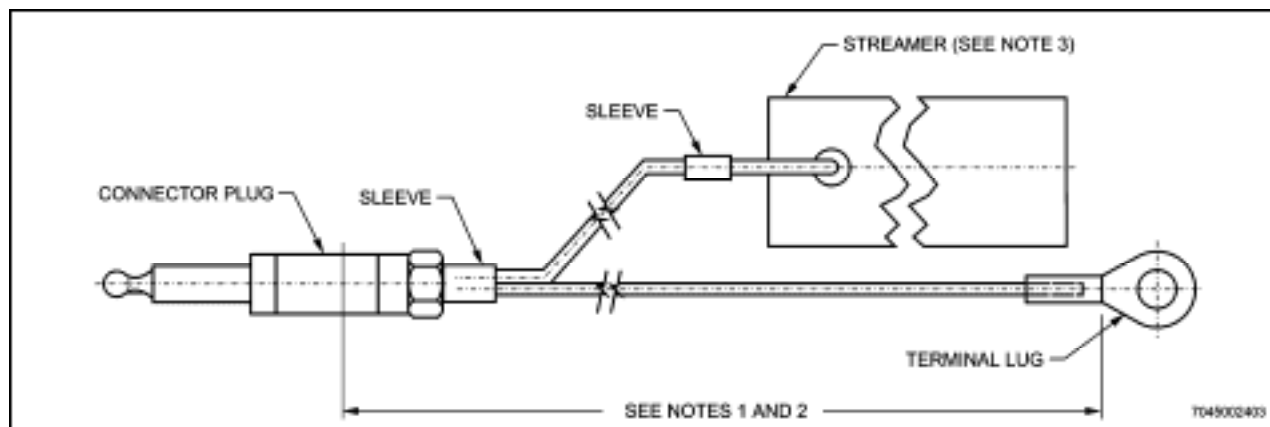
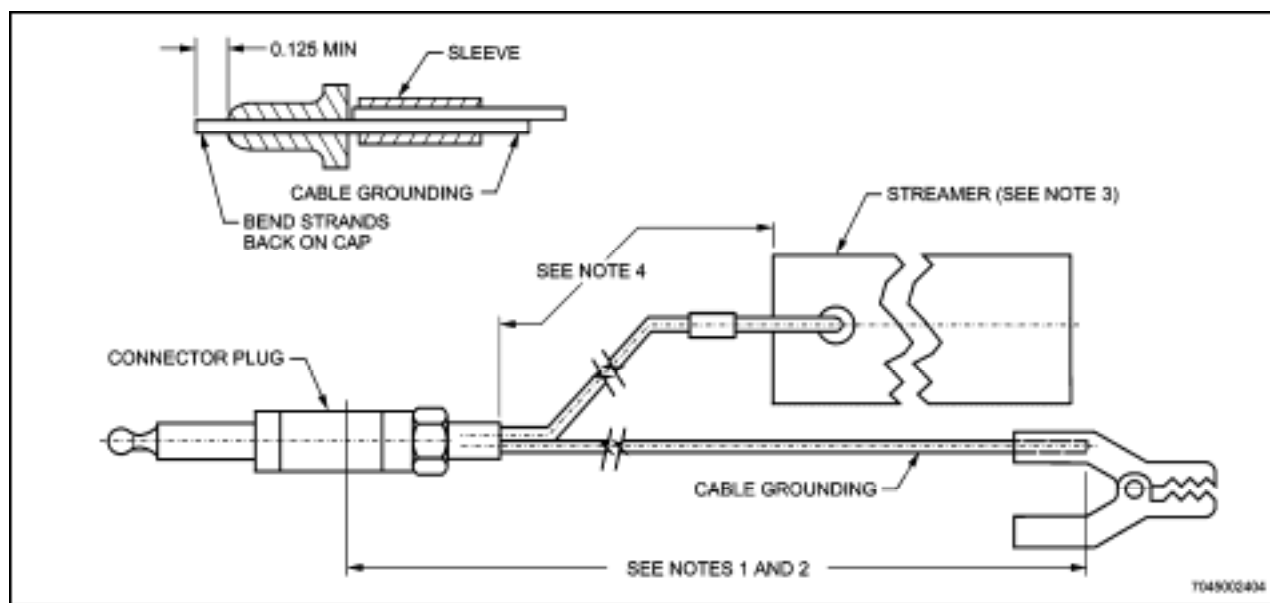
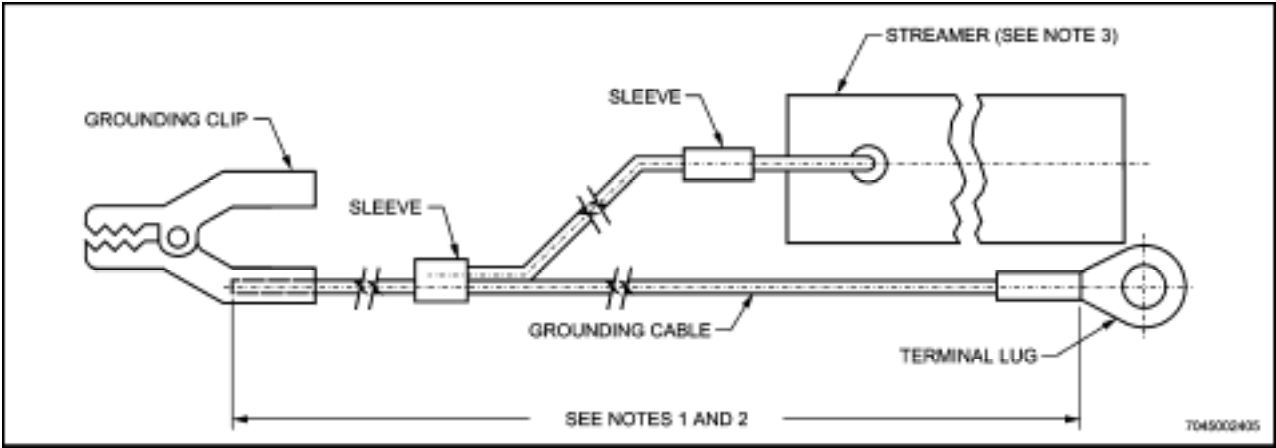
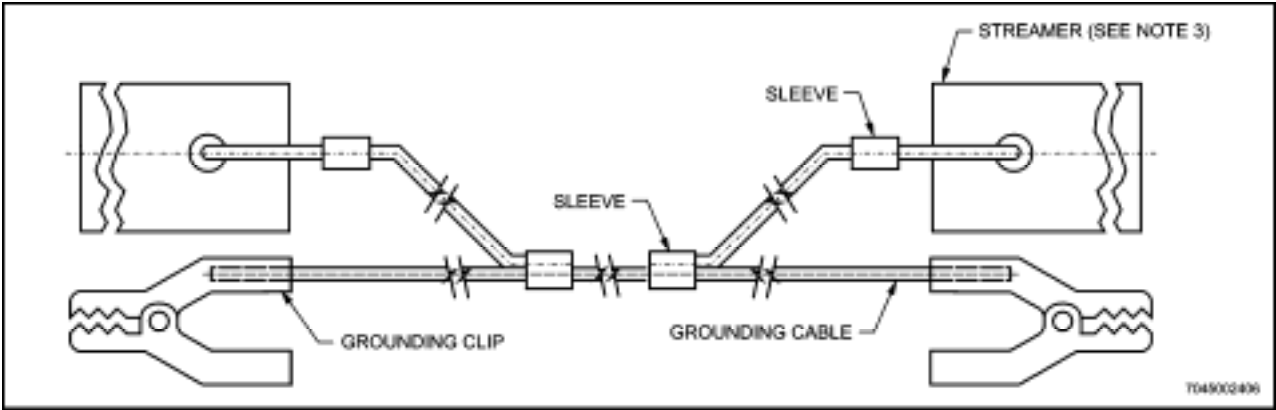

Figure 14-4 Safety Interconnection Lead (Configuration 1)
Figure 14-5 Safety Interconnection Lead (Configuration 2)
Figure 14-6 Safety Interconnection Lead (Configuration 3)
Figure 14-7 Safety Interconnection Lead (Configuration 4)
25. Any one of the configurations detailed in Figure 14-4, Figure 14-5, Figure 14-6 or Figure 14-7 may be used to earth the aircraft.
- b. The drums or containers are to be bonded to each other with safety interconnection leads, (Leads as detailed in Figure 14-7 should be used).
38. GSE used for dispensing fluids, (gases and liquids) except engine and hydraulic oil replenishing dollies, is to be fitted with interconnection hardware as detailed in Figure 14-4, Figure 14-5, Figure 14-6 or Figure 14-7. Specific interconnection hardware requirements for GSE dispensing flammable and non-flammable fluids are as follows:
43. Safety interconnection leads used on aircraft and GSE should conform to one of the configurations detailed in Figure 14-4, Figure 14-5, Figure 14-6 and Figure 14-7. Four configurations are provided to enable companies to utilise the type most appropriate for local requirements. In some cases fitment of streamers to fuel tanker interconnection leads may not be appropriate.